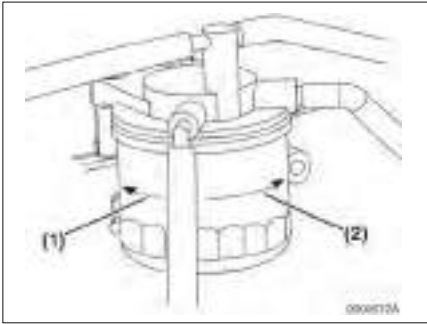

Figure 5-13
3. Remove the fuel filter with a filter wrench, turning it to the left (**Figure 5-13, (1)**). When removing the fuel filter, carefully hold it to prevent the fuel from spilling. Wipe up all spilled fuel.
5. Install the new fuel filter. Turn to the right (**Figure 5-13, (2)**) and hand-tighten it only until it comes in contact with the mounting surface. Tighten to 14-17 ft•lb (19.6-23.5 N•m; 2.0-2.4 kgf•m) or one additional turn using the filter wrench.